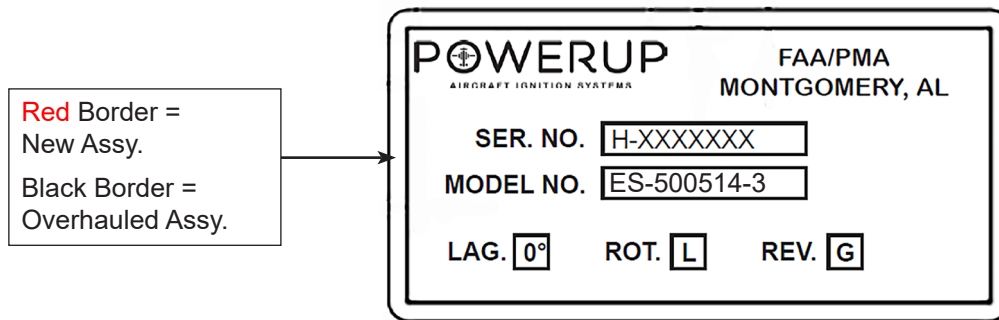

Figure 1 - PowerUp™ S-20 Data Tag
- 1) If the data tag **does** display HET's **PowerUp™** data, reference HET Manual PM6003 Rev. New or later FAA accepted revision for servicing information. See Fig. 1.
- 2) If the data tag does **not** display HET's **PowerUp™** data as shown in Fig. 1, reference the latest manufacturers maintenance manual for the magneto part number being serviced, e.g., Continental Aerospace Technologies.